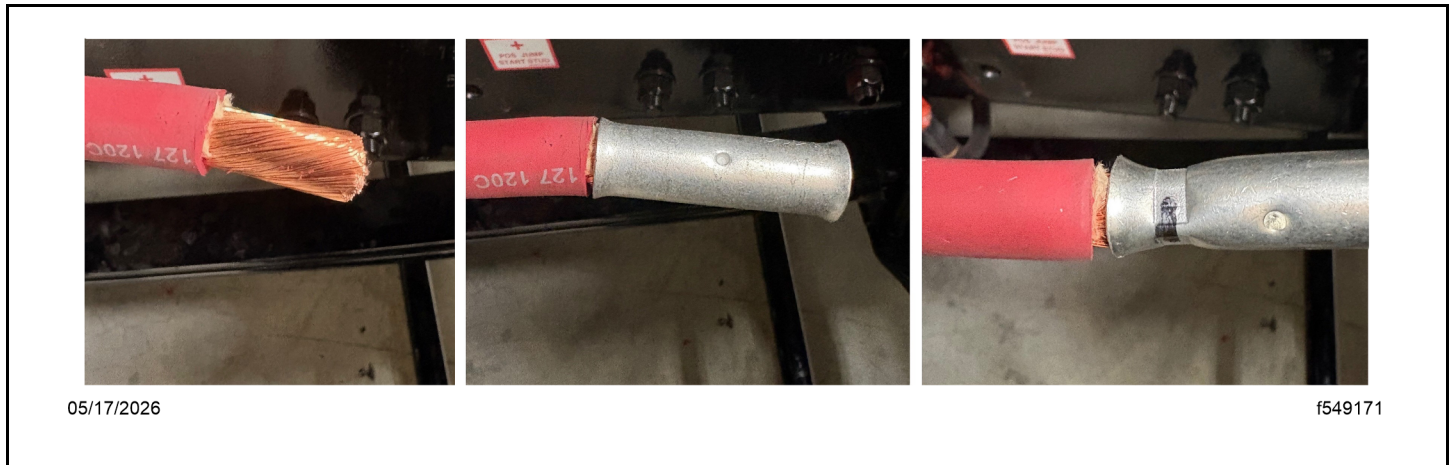

Fig 89, Installing and Crimping the Terminal
21. Crimp the butt connector terminals (PHM 8 2960 and PHM 8 2980) on the cables routed to the cab. See Fig. Fig. 89.